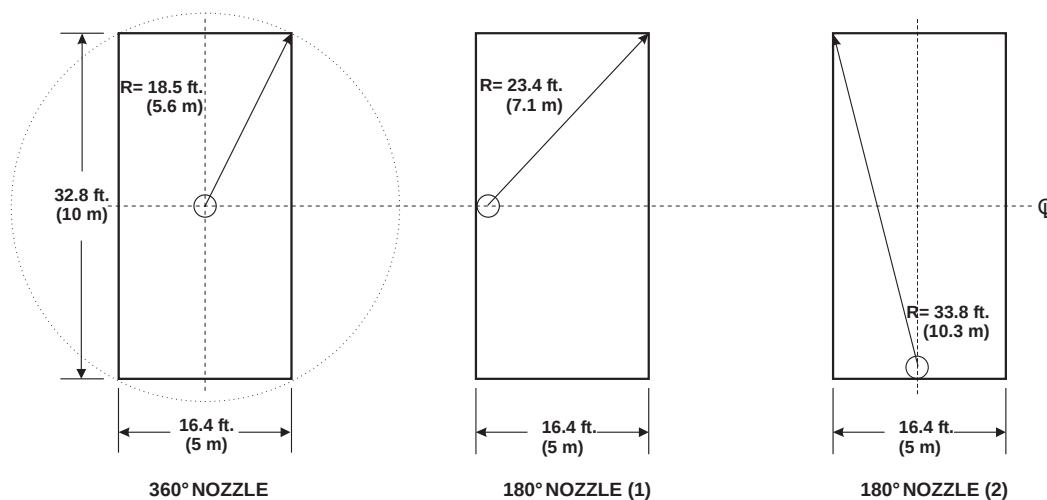

Figure 3-1. Nozzle Placement and Coverage
180° nozzles have a maximum coverage area of 538 ft.² (50 m²). If a 180° nozzle has a maximum throw of 32.8 ft. (10 m), then the maximum coverage width cannot exceed 16.4 ft. (5 m). If a 180° nozzle has a maximum coverage width of 32.8 ft. (10 m), then the maximum throw of the nozzle cannot exceed 16.4 ft. (5 m). Examples of both extremes are depicted in Figure 3-1.
- **360° Nozzles**—360° nozzles must be located as close to the center of the enclosure (or subdivision thereof) as possible. 360° nozzles have a maximum coverage area defined as any rectangle that can be inscribed within a circle radius of 18.5 ft. (5.6 m), i.e., the radius is equal to the diagonal of a rectangle that is 16.4' x 8.2'. Refer to Figure 3-1.